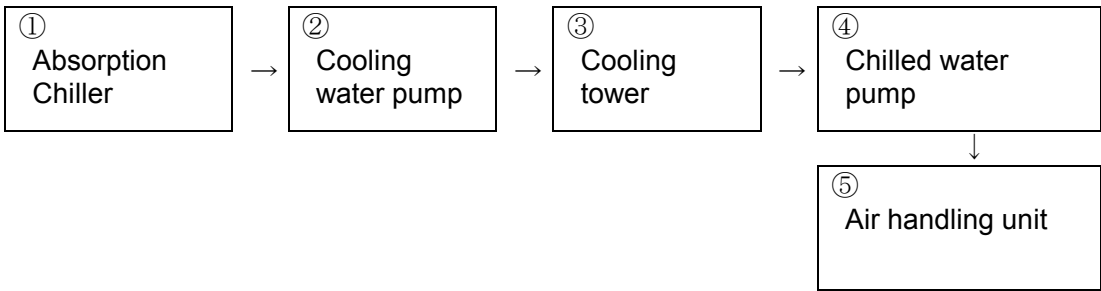

Fig.1-1 Auxiliary Equipment Start/Stop Sequence
- ① Keep the purge valve shut tightly to prevent air from leaking into the Chiller, which may cause the failure of the Chiller.
- ② Keep to turn on the power supply to the control panel without maintenance service.
- ③ During the dilution cycle operation of the Chiller as well, the chilled water pump (both the primary side and the secondary side) and air handling unit must be operated for the necessary time. The Chiller has a little cooling capacity even if it is in the dilution cycle operation. Do not stop the air handling unit before the necessary time to prevent possible subcooling.
- ④ Do not perform an insulation test on the control circuits of the electric controller.
- ⑤ Use Carries recommended interlock system for stop/start of the auxiliary equipment. The interlock system automatically stops/starts chilled water pump and cooling water pump. Please follow the start procedure in Figure 1-1 below.